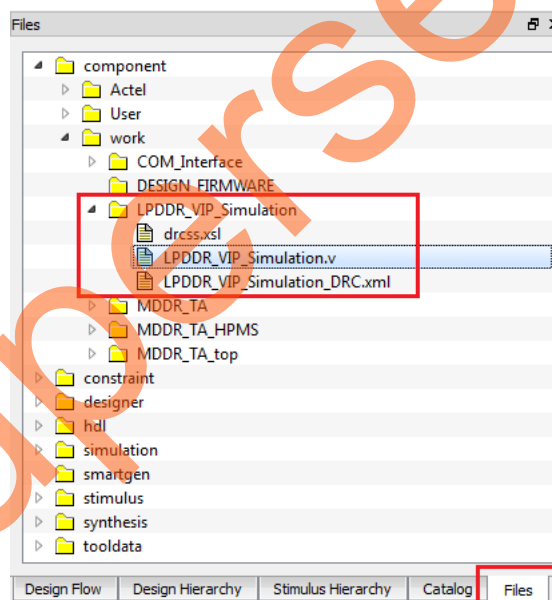

Figure 25 • SmartDesign Generated Testbench File
7. Open the generated SmartDesign testbench file, LPDDR_VIP_Simulation.v. Figure 25 shows the SmartDesign generated testbench file under **Files** tab.